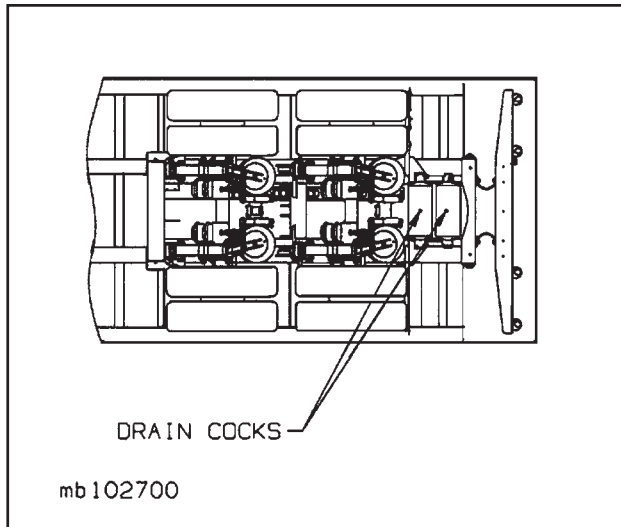

Figure 4-13 Drain Cock Locations
- d. Drain air reservoir daily. A drain cock on the bottom of each air reservoir vents the tank to drain collected water and oil. If held open, air pressure in the tanks is relieved, causing the emergency or parking brakes to be applied (See Figure 4-13).